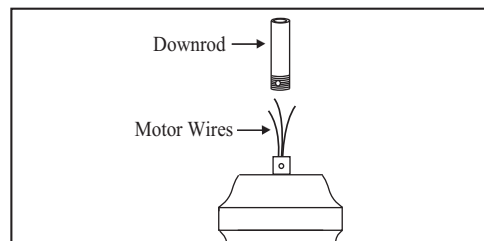

Figure 9
5. Carefully feed motor wires up through the downrod. Thread the rod into the coupling. Next line up holes and replace cotter pin and clevis pin. Tighten set screws. (Figure 9)